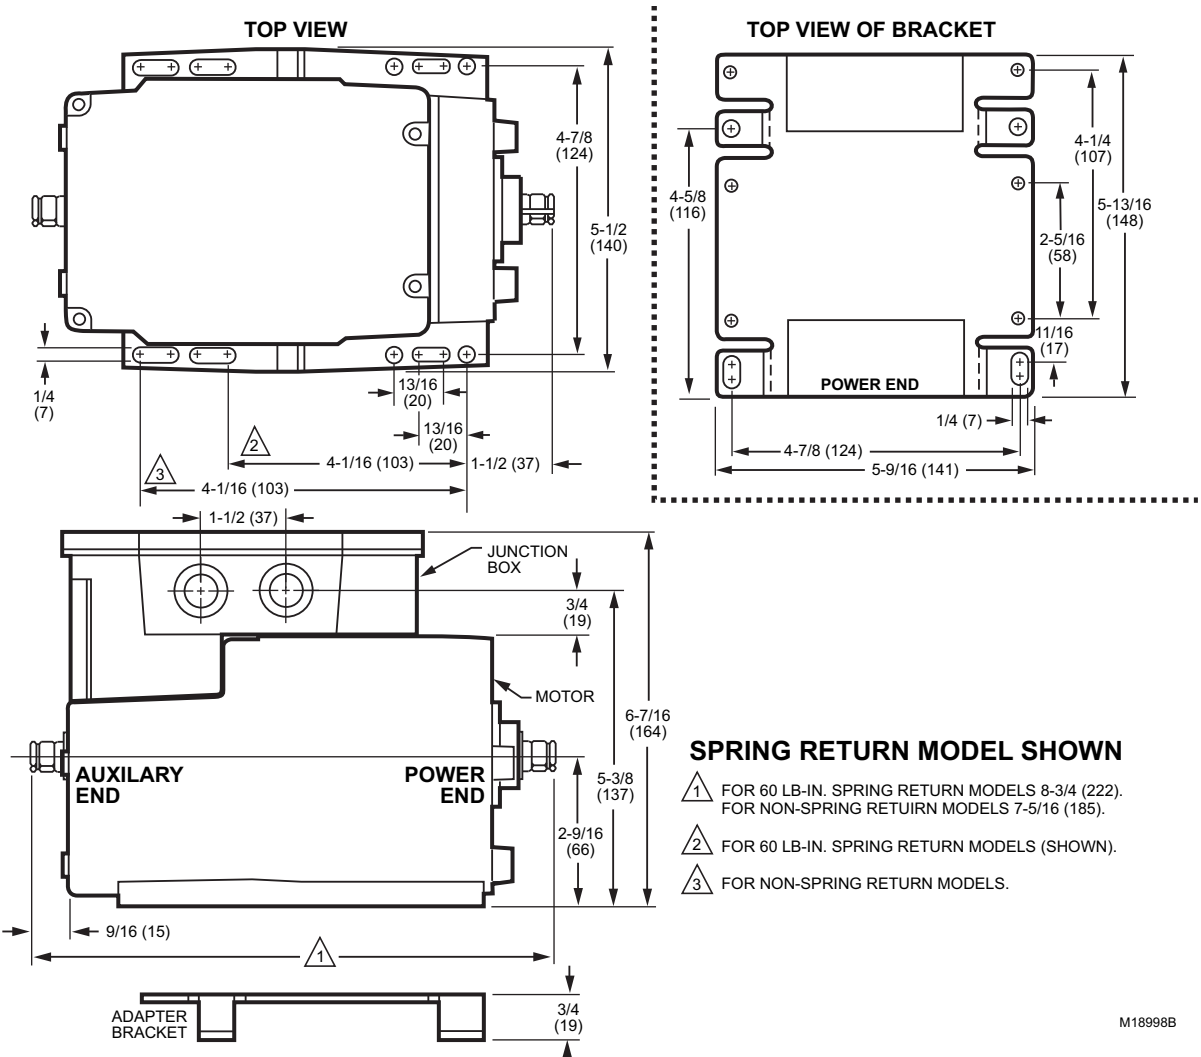

Fig. 1. Series 61 and 62 Modutrol IV Motor mounting dimensions in inches (mm).
**Dimensions:** See Fig. 1.
Allow enough clearance for accessory installation and motor servicing when selecting a location (see Fig. 1). If located outdoors, use liquid-tight conduit connectors with the junction box to provide NEMA 3 weather protection. If mounted outdoors in a position other than upright, install a 4074ERU Weatherproofing Kit and liquid-tight connectors to provide NEMA 3 protection.